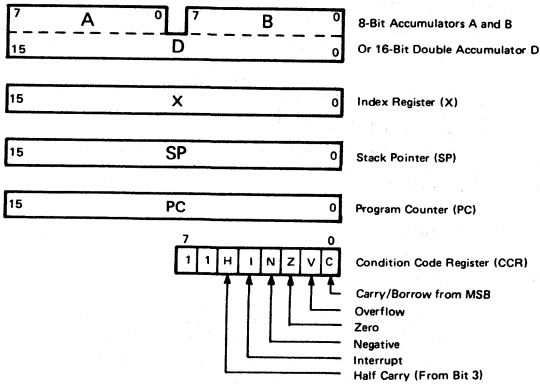

Figure 15 MCU Programming Model
- MCU Programming Model (Figure 15)
The programming model for the HD6803 is shown in Figure 15. The double (D) accumulator is physically the same as the Accumulator A concatenated with the Accumulator B so that any operation using accumulator D will destroy information in A and B.